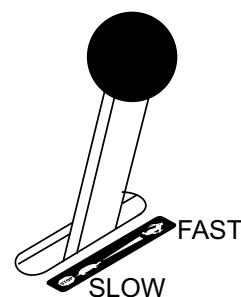

Figure 24. Throttle Lever (Mid Position)
6. Place the throttle lever (Figure 24) halfway between fast and slow for starting.